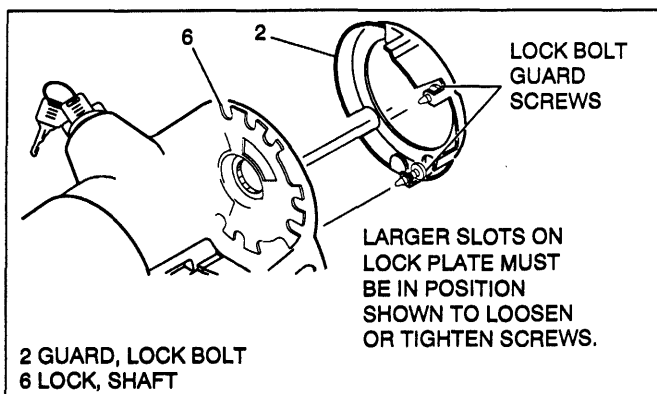

Figure 3 - Removing Lock Bolt Guard
- Lock bolt guard (2). (See Figure 3)
- Rotate shaft (55) until block tooth is at 7 o'clock position and bolt guard screws are accessible through wide slots in shaft lock (6).
- Loosen screws on lock bolt guard (2) until guard can be removed (screws will be retained with lock bolt guard (2)).
- Shaft lock retaining ring (5) using J 23653-C to push down shaft lock (6).
- Dispose of ring (5).
10. Inner race (14).
11. Upper bearing inner race seat (13).
12. Upper bearing spring (8).
13. Turn signal cancelling cam assembly (7).
14. Shaft lock (6).
15. New shaft lock retaining ring (5) using J 23653-C to push down shaft lock (6).
- Ring (5) must be firmly seated in groove on shaft.
16. Lock bolt guard (2). (See Figure 3)
- B. Rotate shaft (55) until block tooth is at 7 o'clock position and bolt guard screw holes are accessible through wide slots in shaft lock (6).
- C. Lock bolt guard (2) and tighten screws on guard until screw heads bottom out.